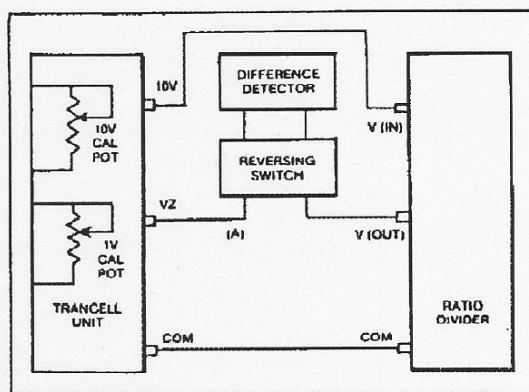

FIGURE 2-2 ALTERNATE CALIBRATION CIRCUIT.
(a) Connect the Trancell into the circuit as illustrated in figure 2-2 using a seven (7) decade Kelvin-Varley divider with a 0.1 PPM of full scale ratio accuracy.